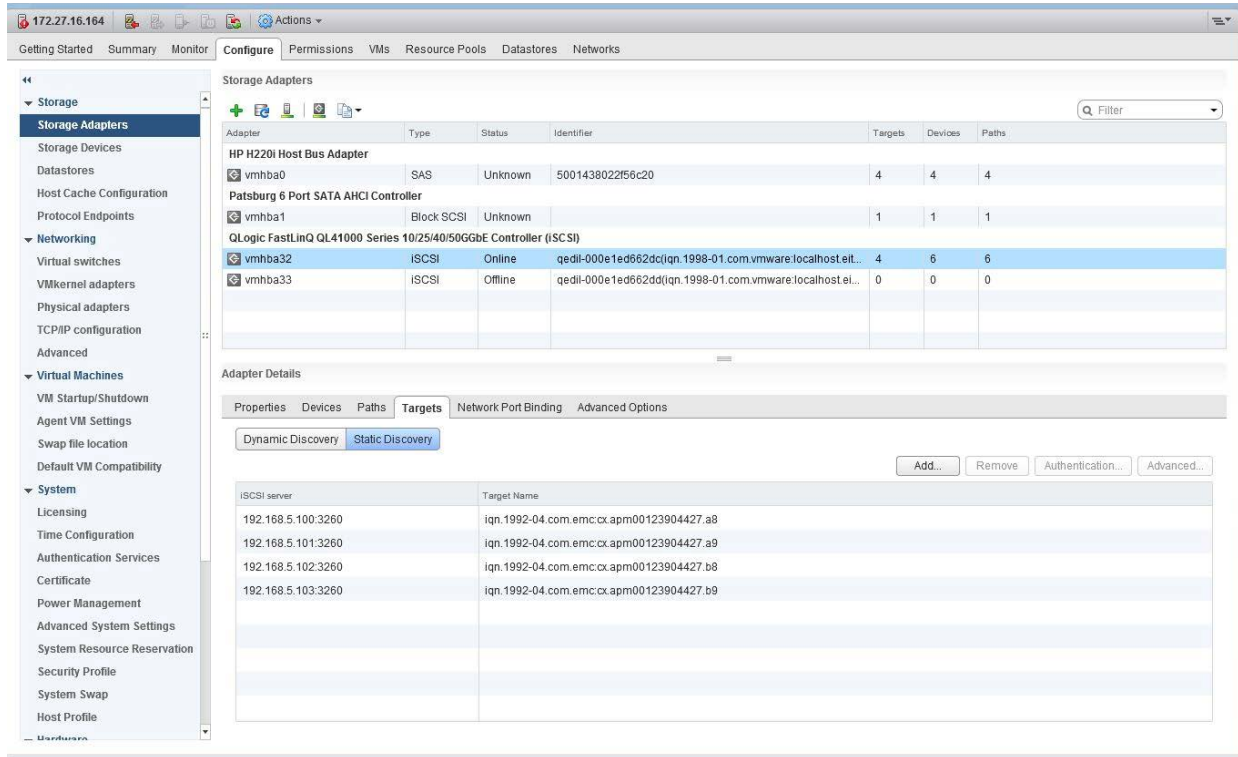

Figure 3-5. Static Configuration Added
- ❑ After static configuration is added, it is listed under **Adapter Details**, **Targets** page, **Static Discovery**, as shown in Figure 3-5.